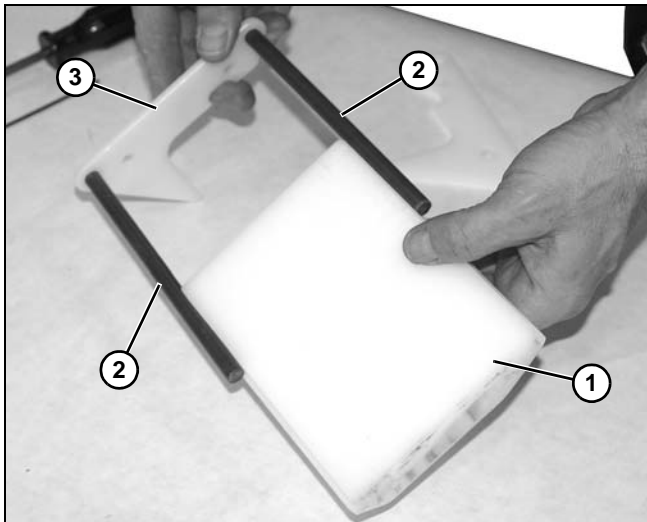

Figure 133
26. Disassemble wear bar (**Figure 133, item 1**), from wear rods (**Figure 133, item 2**), and remaining side guide plate (**Figure 133, item 3**). Replace worn components.